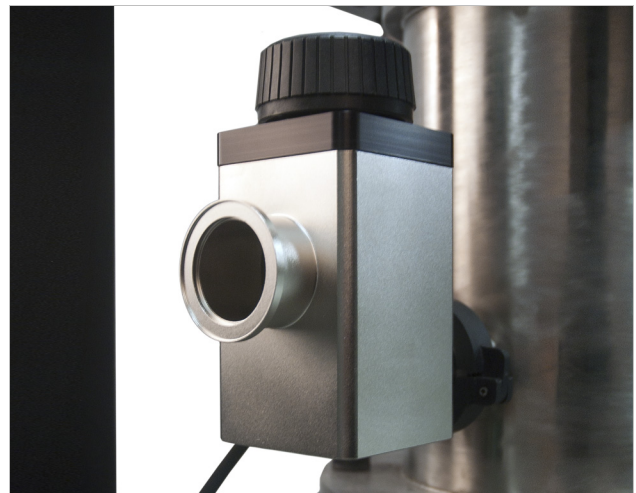

FIGURE 4-9 Left: Purge valve; Right: Vacuum isolation valve
- *Purge valve*: the purge valve shown in FIGURE 4-9 is used to backfill the chamber with dry nitrogen or inert gas. It is most commonly used when warming or venting the system.
2. Close the purge valve completely (FIGURE 4-9).
4. Open the vacuum isolation valve completely (FIGURE 4-9).
The purge valve shown in FIGURE 4-9 is used to purge the chamber with dry nitrogen or dry inert gas such as argon. It is most commonly used when warming or venting the system. During warm up, purging with dry gas can speed the warm up process (section 4.5.8, step 6). When opening a system, purging with a dry gas will prevent moisture and contaminants from entering the chamber, which will reduce pump-down time and improve vacuum quality. If available, dry argon is recommended because it is a heavy gas that is easier to evacuate with the turbo vacuum pump.